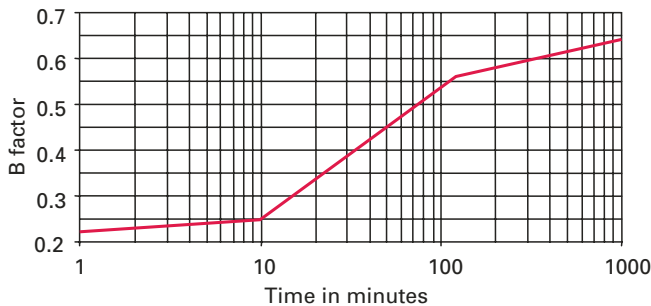

Figure E6. Cyclic pulse factor B.
Once a fuse has been selected using the above criteria, a check is required to see if the individual cyclic load pulses (each expressed in  $I_{pulse}$ ,  $t_{pulse}$  coordinates) have a sufficient safety margin in relation to the fuse's melting current at each pulse duration.  $I_t$  is the fuse's melting current corresponding to each pulse ( $t = t_{pulse}$ ) duration, and the cyclic pulse factor  $B$  can be found in Figure E6 for a period ( $T$ ) of a cyclic loading condition.
While a 200 A fuse may be sufficient, a safety factor check (B) is needed to ensure that the pulse keeps a sufficient safety distance from the fuse's melting curve. This is obtained from the Rule 2  $I_{pulse}$  equation in Part 3, using Figure E6 for a given total time period  $T = 17$  minutes, then  $B = 0.32$ .